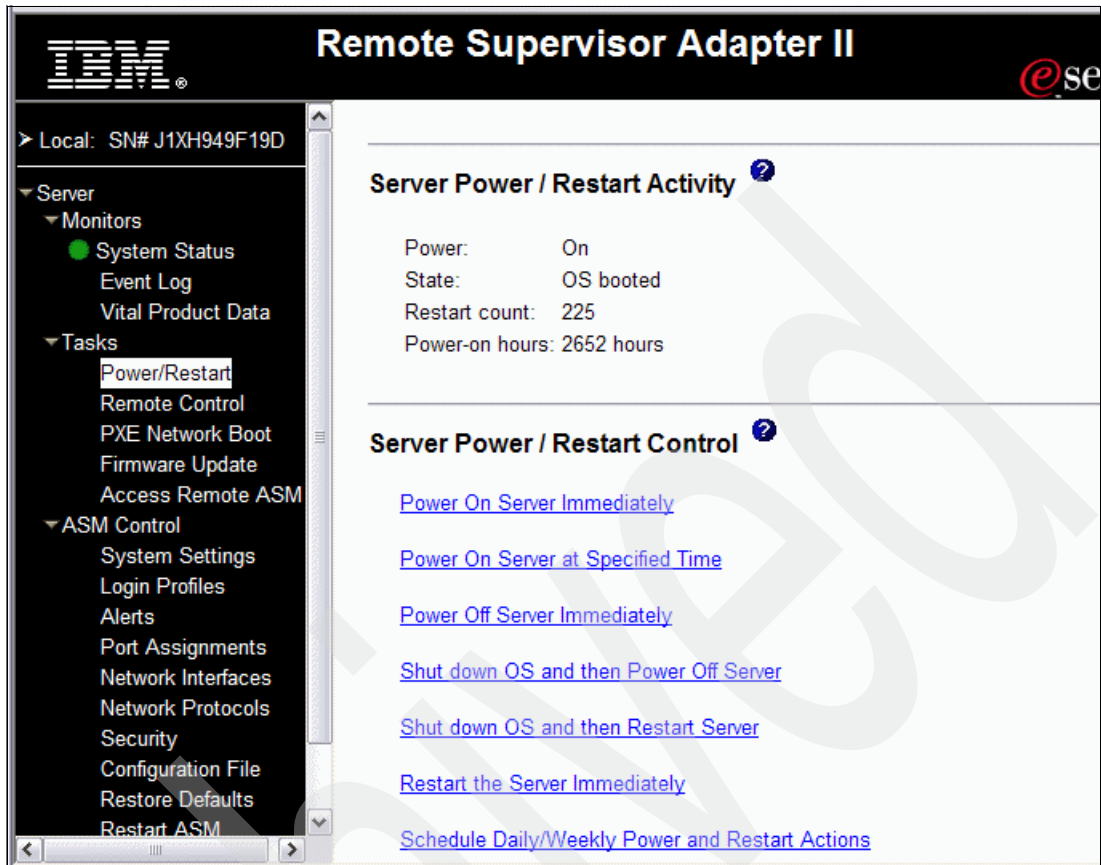

Figure 4-38 Verify status of xSeries server from RSA
- The Blade or xSeries server must be powered off to do the install. If you have connected the service processor to a network that is accessible from a browser, you use the browser to access the service processor for xSeries or BladeCenter to verify the status of the server if it is remote from you (Figure 4-38 on page 83).